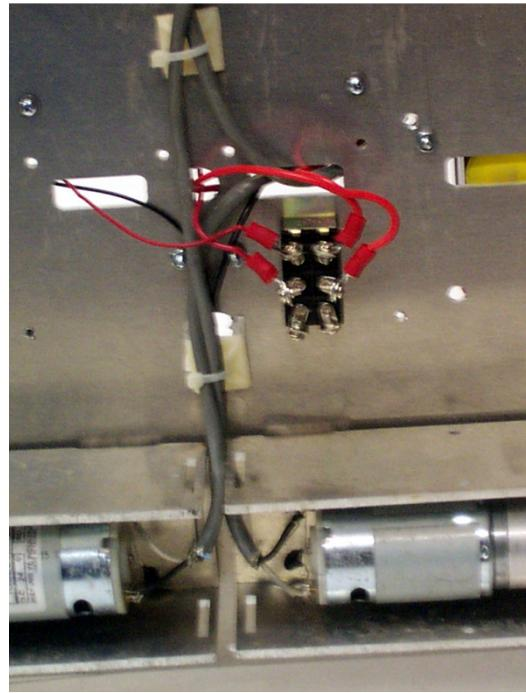
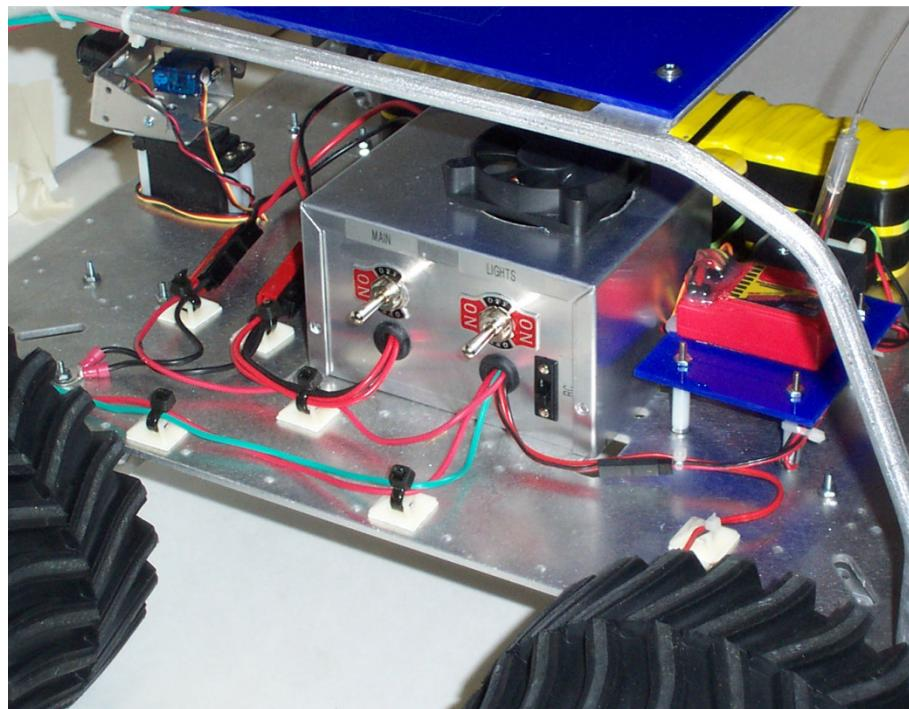
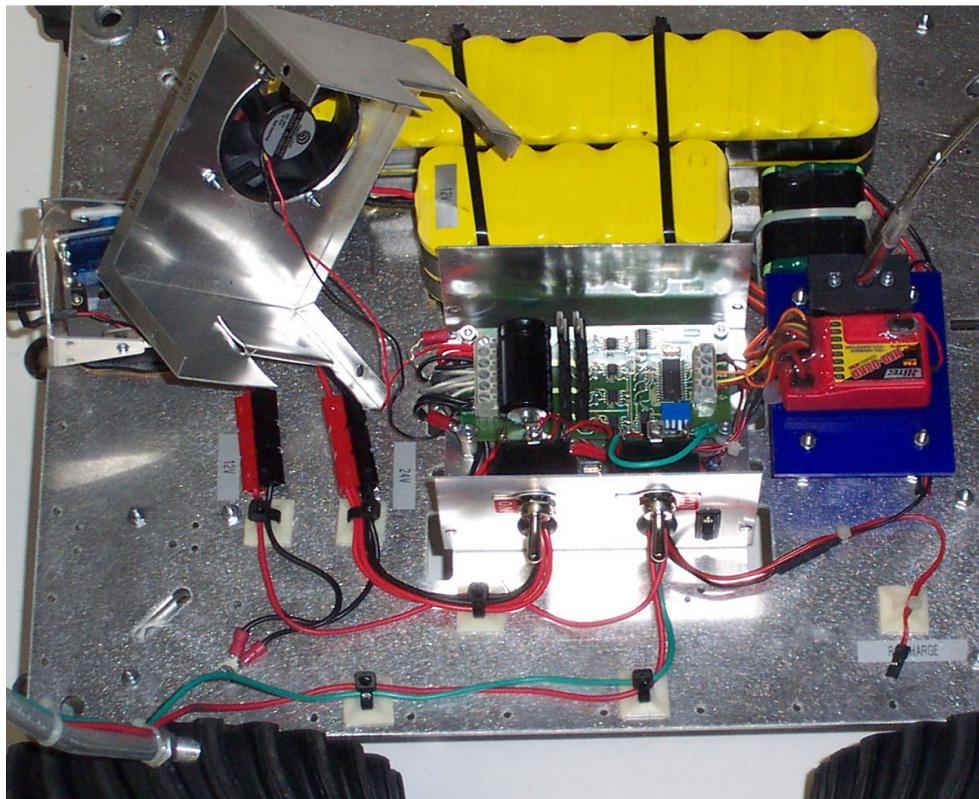

Figure 40: Power Switch and Motor Wire Routing
Figure 41: Electrical Power Hookup
Figure 42: Electrical Power Hookup
1. Mount the power switch. The power Switch can be put in the deck as shown in **Error! Reference source not found.** and Figure 40 or in the electrical housing as shown in Figure 41 Figure 42.
2. Use the crimp terminals to mount the wires to the switch as shown in Figure 40.